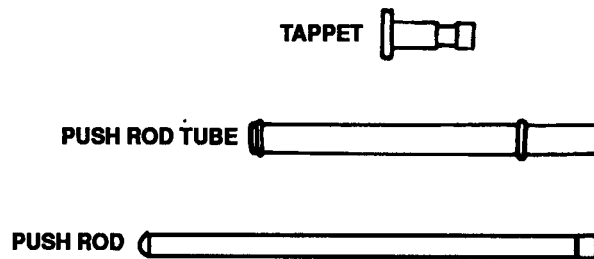

Figure 5-83. Rocker Arm Bracket Assembly
1. Dismantle bracket (7, figure 5-83).
3. Press in bearing bushing (2); ensure the lubrication oil holes are in alignment.